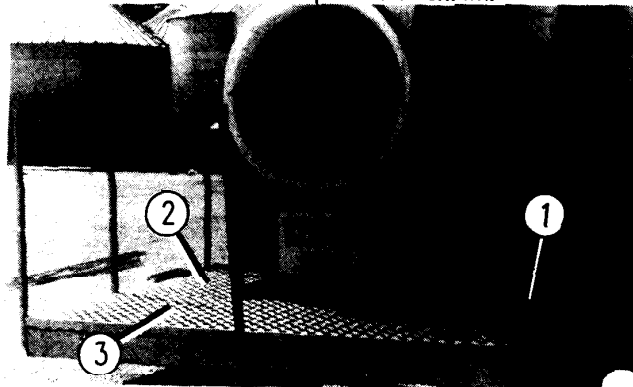

FIG. 8 - INSTALLING FLOOR PANELS.
- C. Place the short wide floor panels (No. 1 Fig. 8, D61-0075) on the left-hand side of the platform, at the rear as shown in Fig. 8.
- D. Place the four short floor panels (No. 2, Fig. 8, D61-0068) on the right-hand side, at the rear.
- E. Place the three long floor panels (No. 3, Fig. 8, D61-0069) across the front end of the platform as shown.